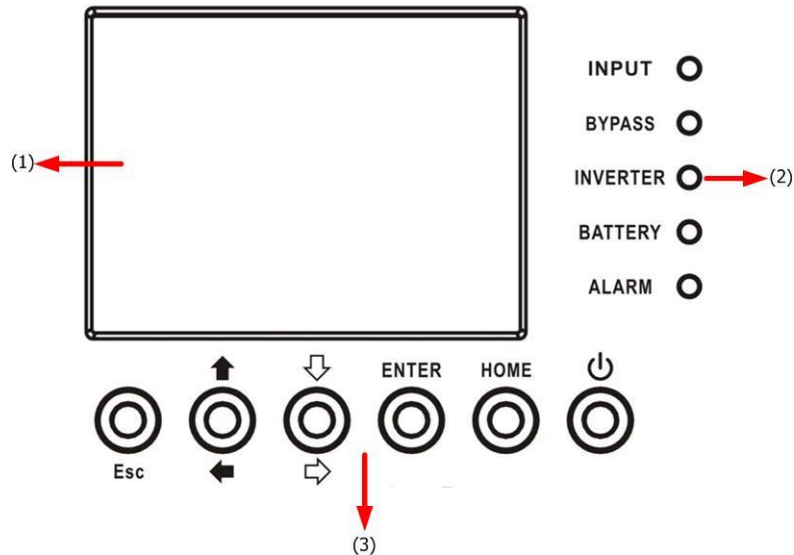

Figure 4-1 Control panel
This control panel and display description are located at the front door of the UPS. It is the USER control, monitoring of all measured parameters, UPS and battery status and alarms. The control panel and display description are divided into four functional areas: (1) LCD display, (2) LED indications, (3) Control keys, (4) Audio Alarm, as shown in Figure 4-1.